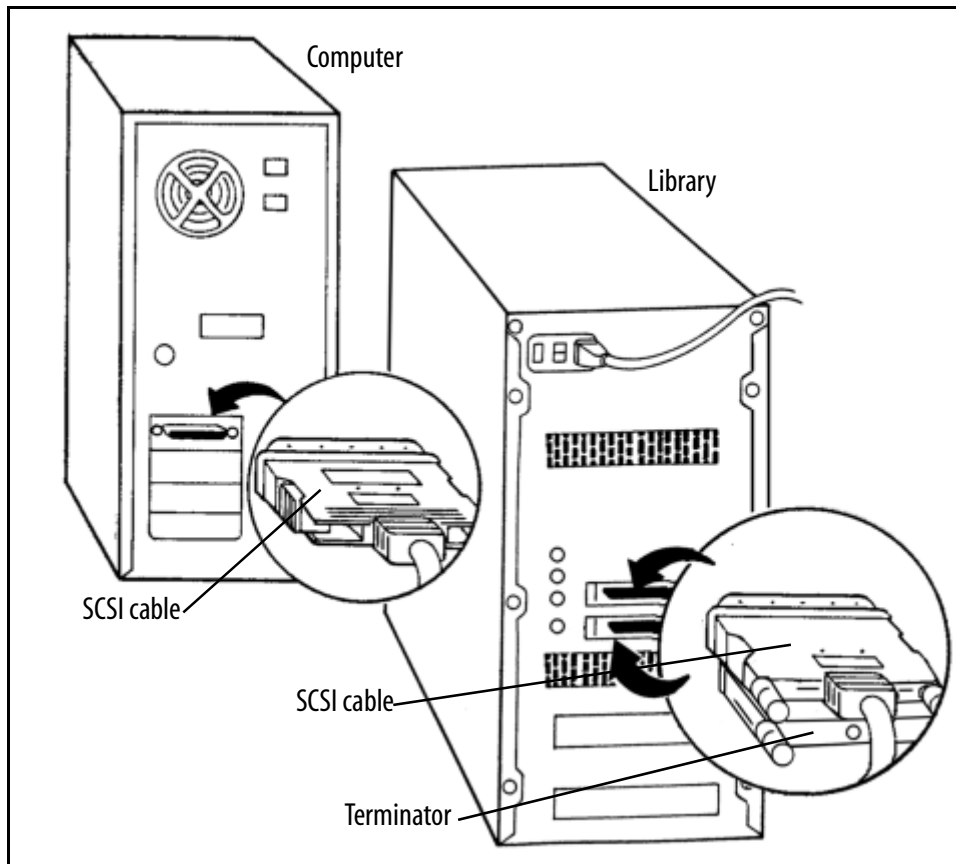

Figure 2-5 Connect the library to the host computer with the SCSI cable. Connect a SCSI terminator to the library (as necessary).
- Determine the correct specifications for the SCSI terminator as described in *SCSI Terminator Requirements* on page 81. Attach a SCSI terminator to the free SCSI connector on the library, as shown in Figure 2-5.